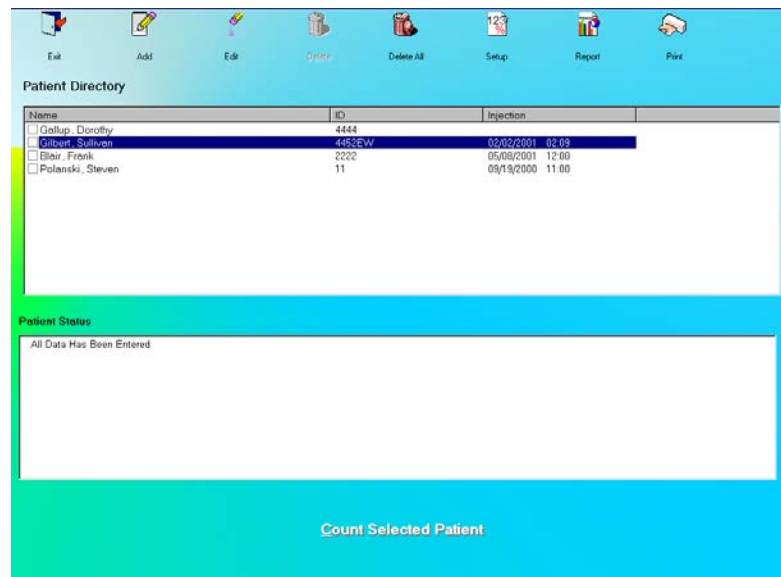
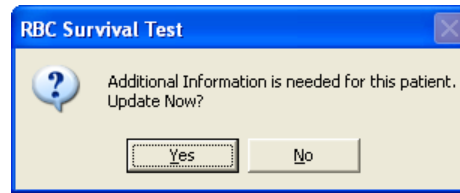
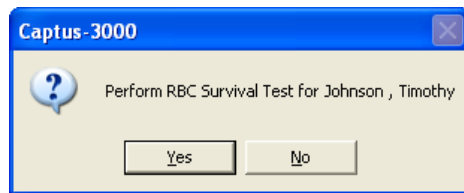

Figure 10-67
Figure 10-68
Figure 10-74
1. To select (highlight) a patient to be edited, use the ↑ ↓ keys or *Page Up* and *Page Down* keys to move up or down in the patient list. If the list is long, the scroll bar is also available. To reach a particular patient, press the first letter of the patient name. Press the ↓ key if necessary, to go further down (Figure 10-67).
Selecting a patient with partially entered data will prompt you with the screen shown below (Figure 10-68). Click the **Yes** button or press the *Y* key to update the patient information or click the **No** button or press the *N* key to return to the Main RBC Survival Test screen (Figure 10-67).
- Click the **Start Procedure** button or press *Alt+S* to begin the test. Figure 10-74 will appear confirming the selected patient. To cancel the test or if the incorrect patient was selected, click the **No** button to return to Figure 10-67, otherwise click **Yes** to continue.